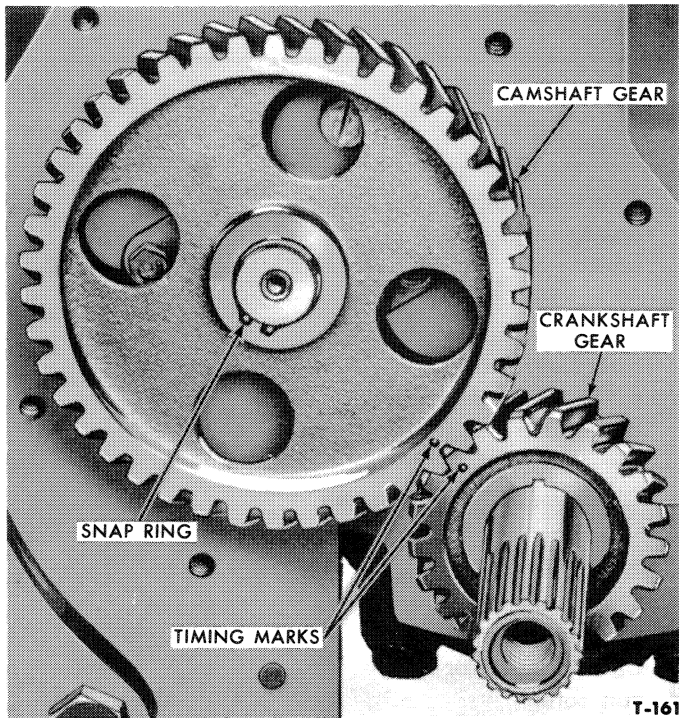

Figure 73—Valve Timing Marks
2. Carefully install the camshaft in the cylinder block being careful not to damage the bearing bores with the sharp edges of the cam lobes. Make certain that the timing mark on the camshaft gear is aligned with the timing mark on the crankshaft gear, Figure 73. Install and tighten the camshaft thrust plate attaching screws to 12-16 ft. lbs. torque.